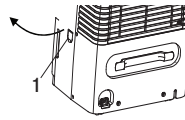

Figure 1
- Open the connector cover on the side of the unit (1). (Figure 1)